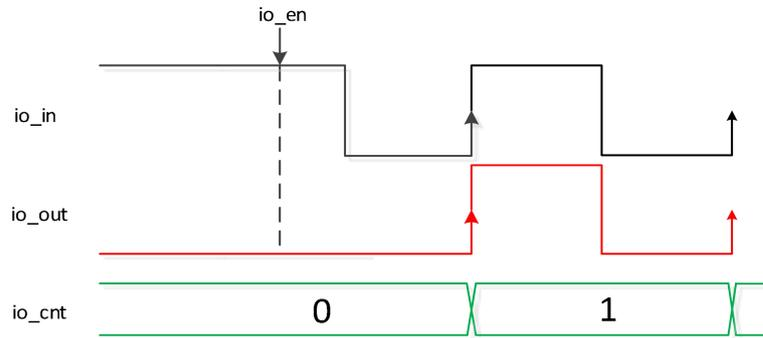

Fig. 6 Rising edge counting initiated at high level (pulses not divided)
- Started when `io_in` is high, the count value is incremented by 1, as shown in Figure 6